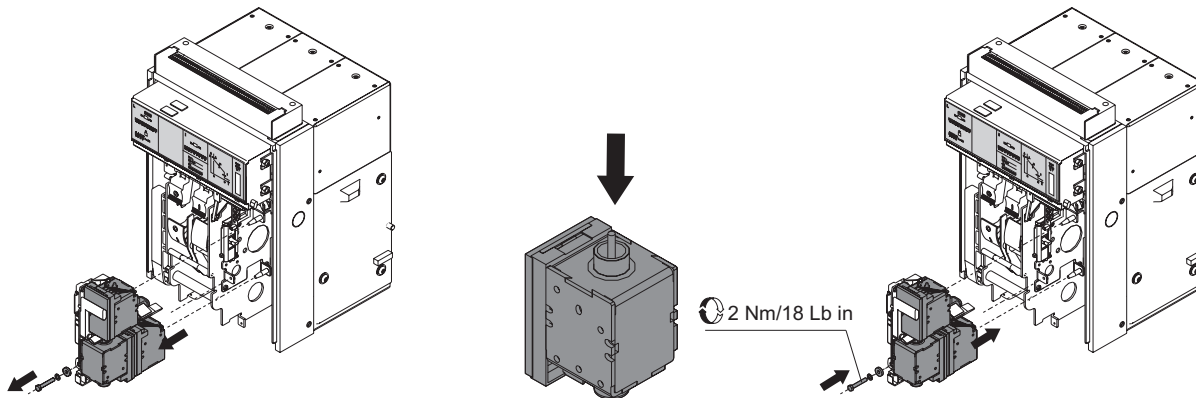

Figure 43.
- Check that the releases (YO, YU, YC) are in good condition (no excessive wear, overheating, breakages) Figure 43.